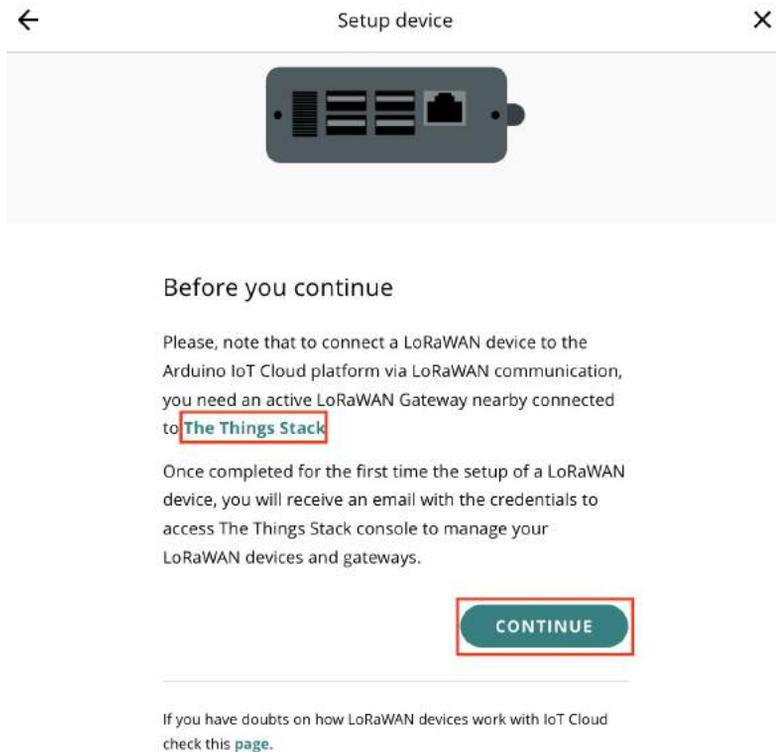

Figure 6.12 – The active LoRaWAN gateway
4. *Figure 6.12* shows a screen that provides some details about the **The Things Stack** portal link. You will also see a message saying that you need an active LoRaWAN gateway for the MKR WAN 1300 to communicate with the Arduino IoT Cloud.